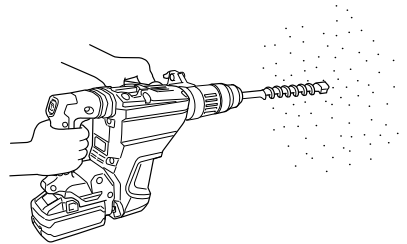

Fig. 23
1. How to drill holes (Fig. 23)